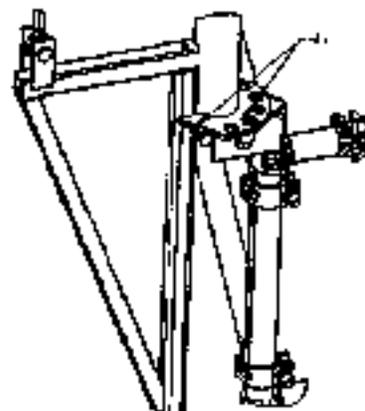

Fig. 3-84 Building crane - locking
- 3 Place the crane in the support and mount the bolt at the bottom side (fig. 3-84).